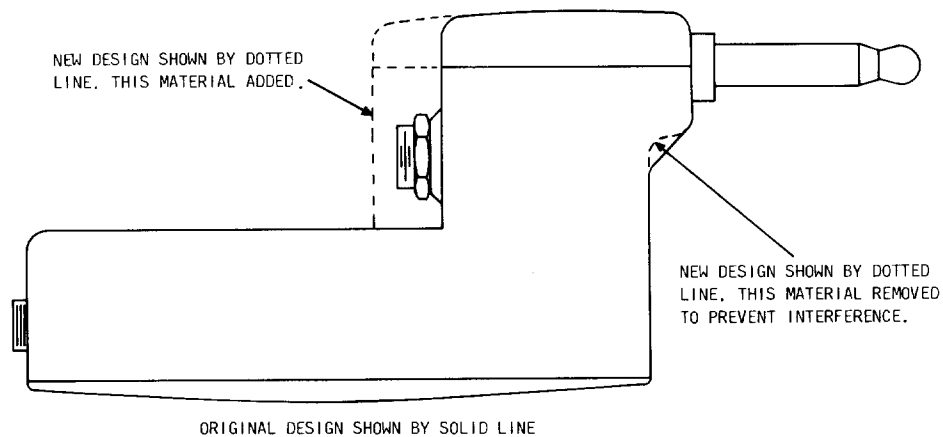

Fig. 2—292-Type Amplifier Showing Difference Between Earlier and Later Models
- (e) to add Fig. 2.
**1.03** The 292A (MD) amplifier was manufactured in two versions. Fig. 2 illustrates the difference between the two. The earlier version, which was manufactured before July 1975, is not mechanically compatible with the series 20 through 150 PBX consoles while the later version is compatible.